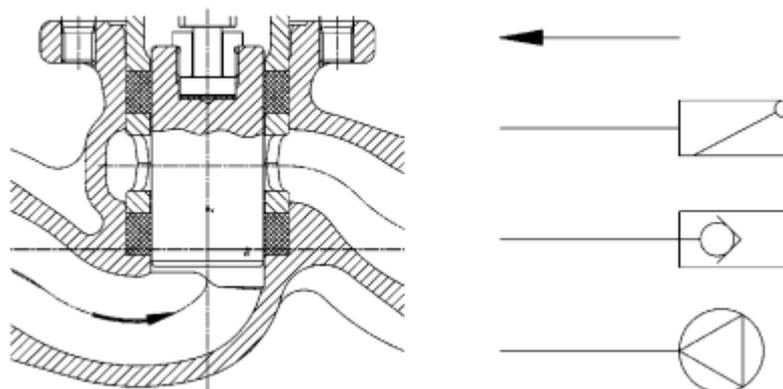

Fig. 1
- during fitting, the proper flow direction has to be considered. (flow direction arrow is casted on the body). Piston valves show a piston pump effect while closing. This can result in increased pressure on the inlet side when used in the preferred flow direction. When used with piston pumps and non-return valves, piston valves should therefore be installed opposed to the preferred through flow direction, see Fig. 1 below.